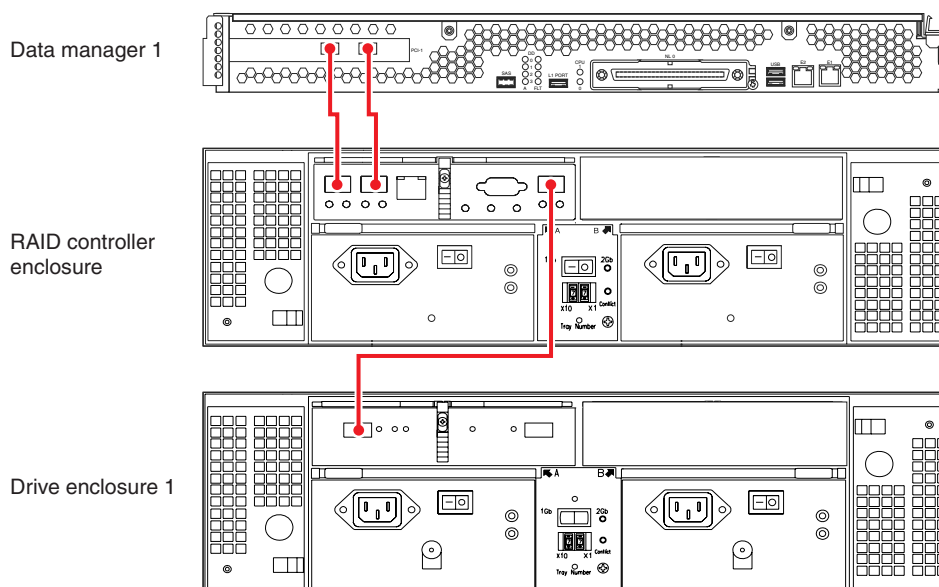

Figure 1-8 Single-Module Data Manager, Single Controller RAID, One Disk Expansion
Use the following steps and Figure 1-8 to connect a single-module data manager to a single-controller RAID enclosure and one drive expansion enclosure.
1. Connect the Data Manager's Fibre Channel PCI card port A (blue label [1A]) to the RAID controller's port 1 (blue label [1A]), see Figure 1-8.